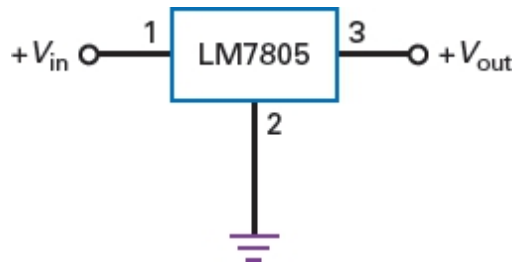

Figure-70 Three-terminal voltage regulator
- Figure-70 shows an example of a three-terminal voltage regulator. The **LM7805** IC provides for a five-volt fixed **positive** output voltage, as long as the input voltage to the **IC** is at least 2 to 3 volts greater than the required output voltage.